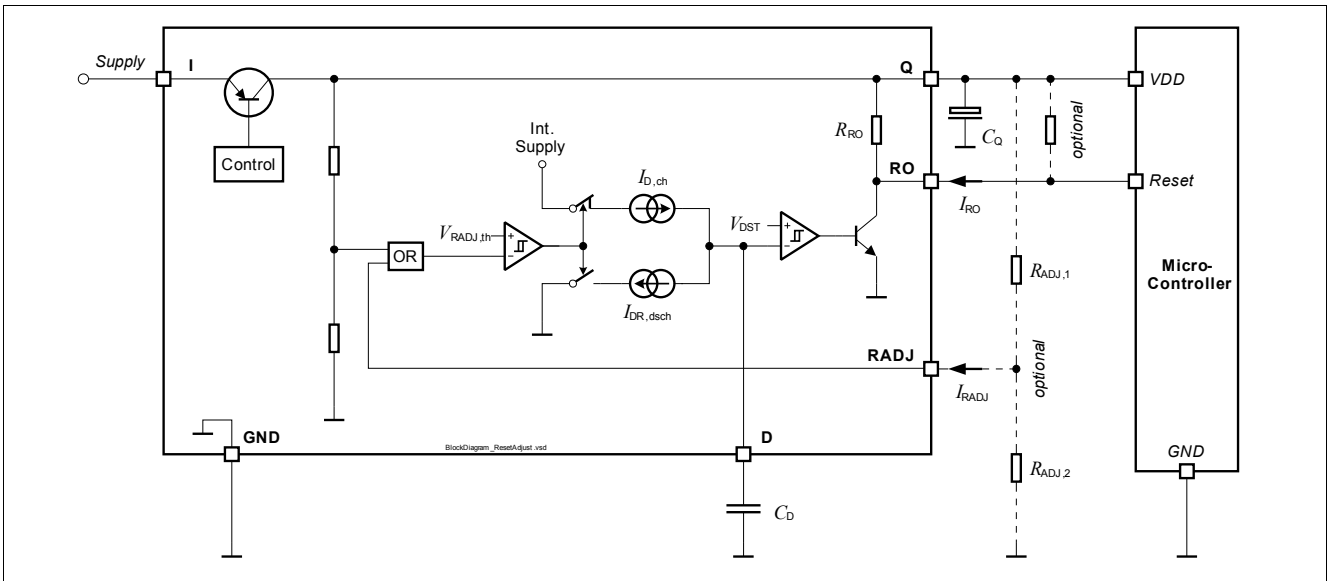

Figure 7 Block diagram reset circuit
- $R_{ADJ,1}$, $R_{ADJ,2}$: Resistors of the external voltage divider, see Figure 7.
$V_I = 13.5\text{ V}$, $T_j = -40^\circ\text{C}$ to $+150^\circ\text{C}$, all voltages with respect to ground, direction of currents as shown in Figure 7 (unless otherwise specified)
$V_I = 13.5\text{ V}$, $T_j = -40^\circ\text{C}$ to $+150^\circ\text{C}$, all voltages with respect to ground, direction of currents as shown in **Figure 7** (unless otherwise specified)